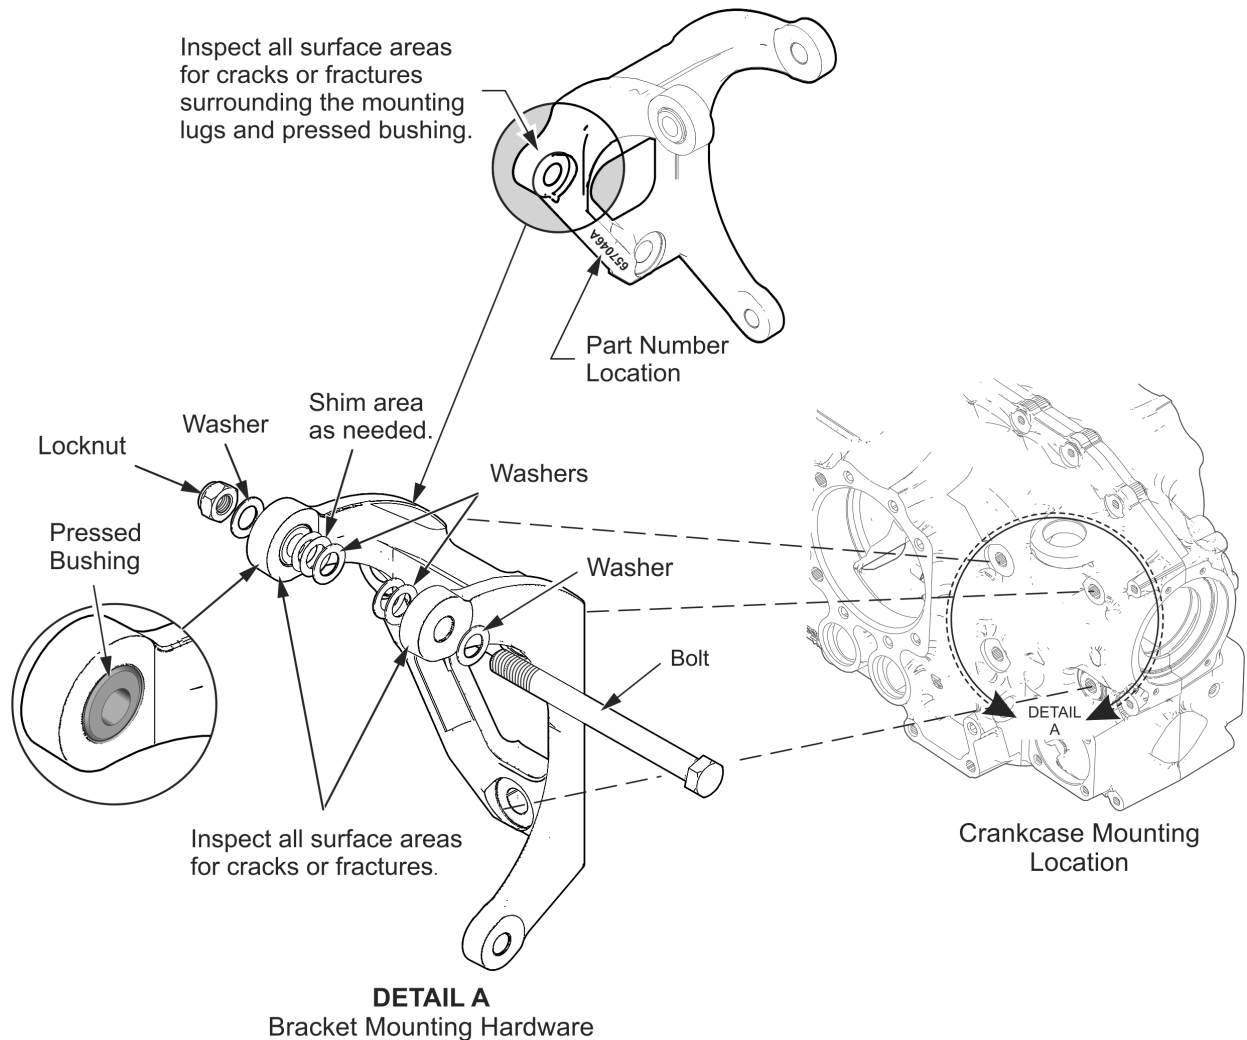

Figure 1. Bracket Assembly Inspection Area, typical
3. Perform a visual inspection using a minimum 10x magnifier and bright light source on the cast aluminum bracket to verify the areas surrounding the mounting lugs and pressed bushing are not cracked or fractured (see Figure 1).